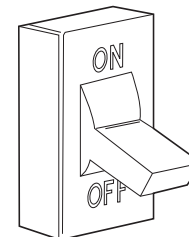

Fig. 8 – Turn Off Electrical Supply
3. Turn OFF electrical supply to the furnace (see Fig. 8).